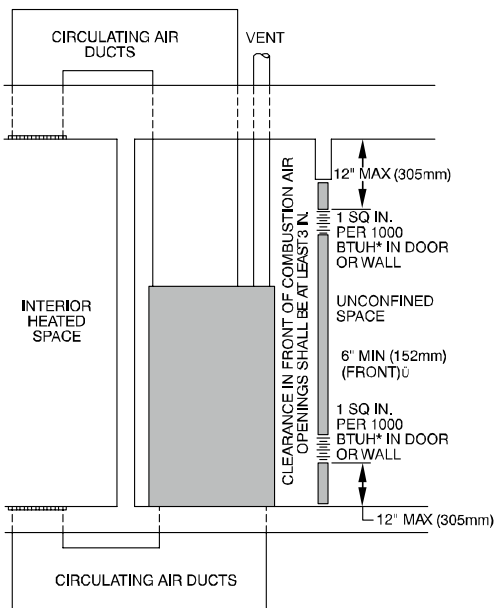

Fig. 7 – Air for Combustion, Ventilation, and Dilution from Indoors
- b. Combining spaces on same floor level. Each opening shall have free area of at least 1 in.²/1,000 BTU/h (2,000 mm²/kW) of the total input rating of all gas appliances in the space, but not less than 100 in.² (0.06 m²). One opening shall commence within 12 in. (300 mm) of the ceiling and the second opening shall commence within 12 in. (300 mm) of the floor. The minimum dimension of air openings shall be at least 3 in. (80 mm). See Fig. 7.